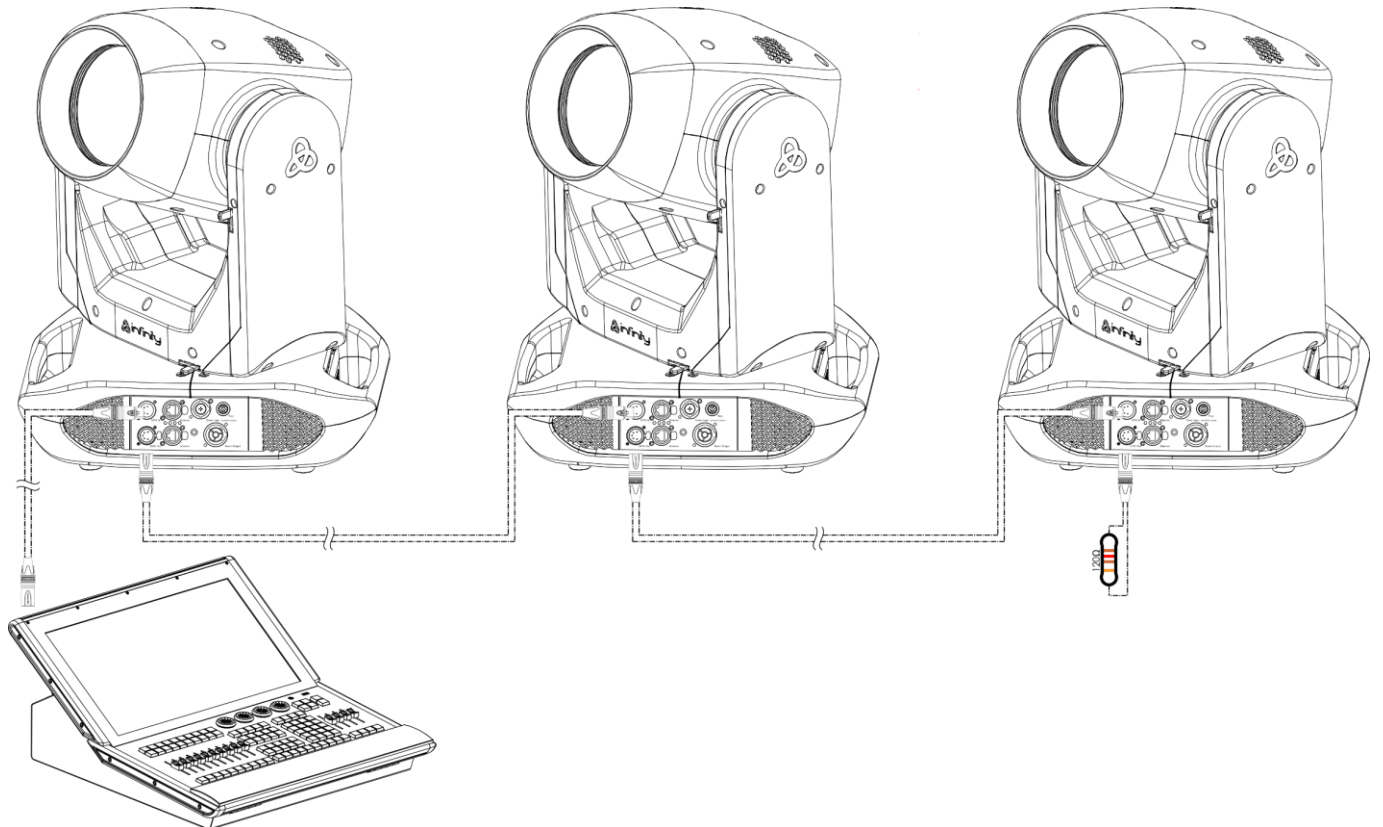

Fig. 10
- 04) Link the units as shown in Fig. 10. Connect the first unit's DMX "out" socket with the second unit's "in" socket, using a DMX signal cable. Repeat this process to link the rest of the units.